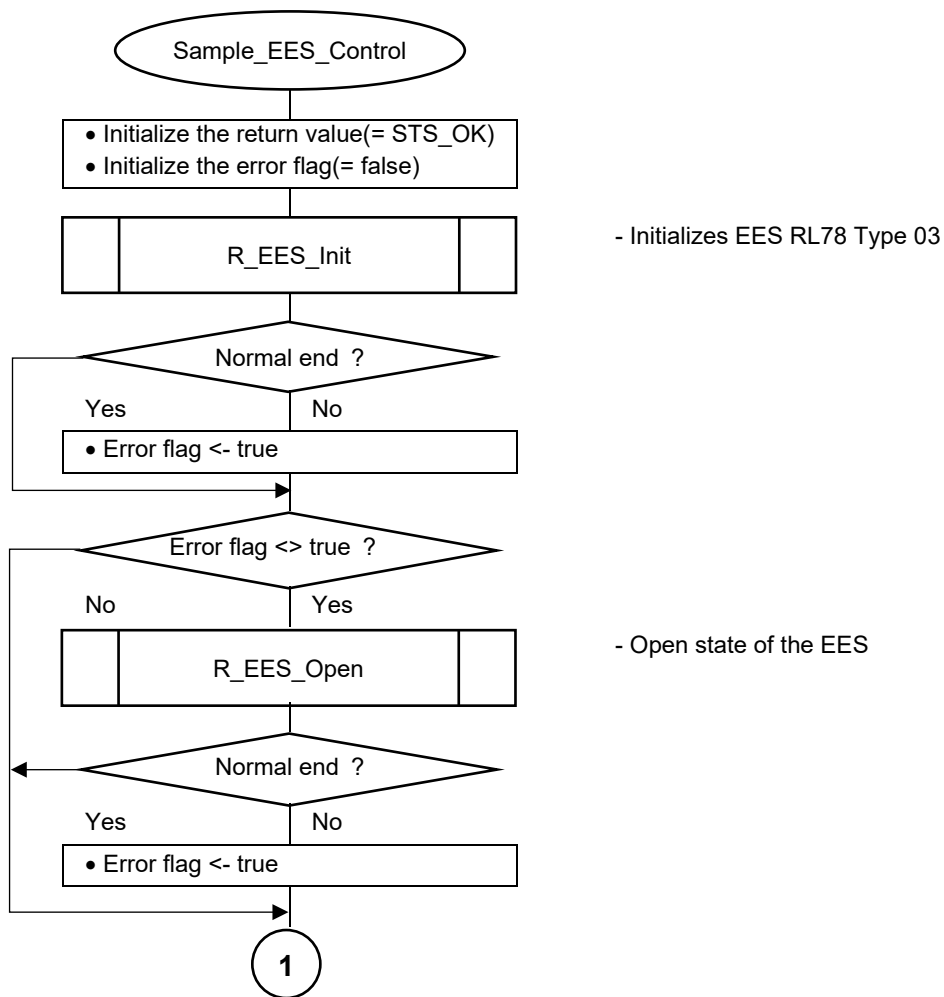

Figure 6-3 Flowchart of Sample Processing for Controlling EEPROM Emulation (1/5)
- Figure 6-3 shows the pre-processing required to use the EES and the write and read processing flow.